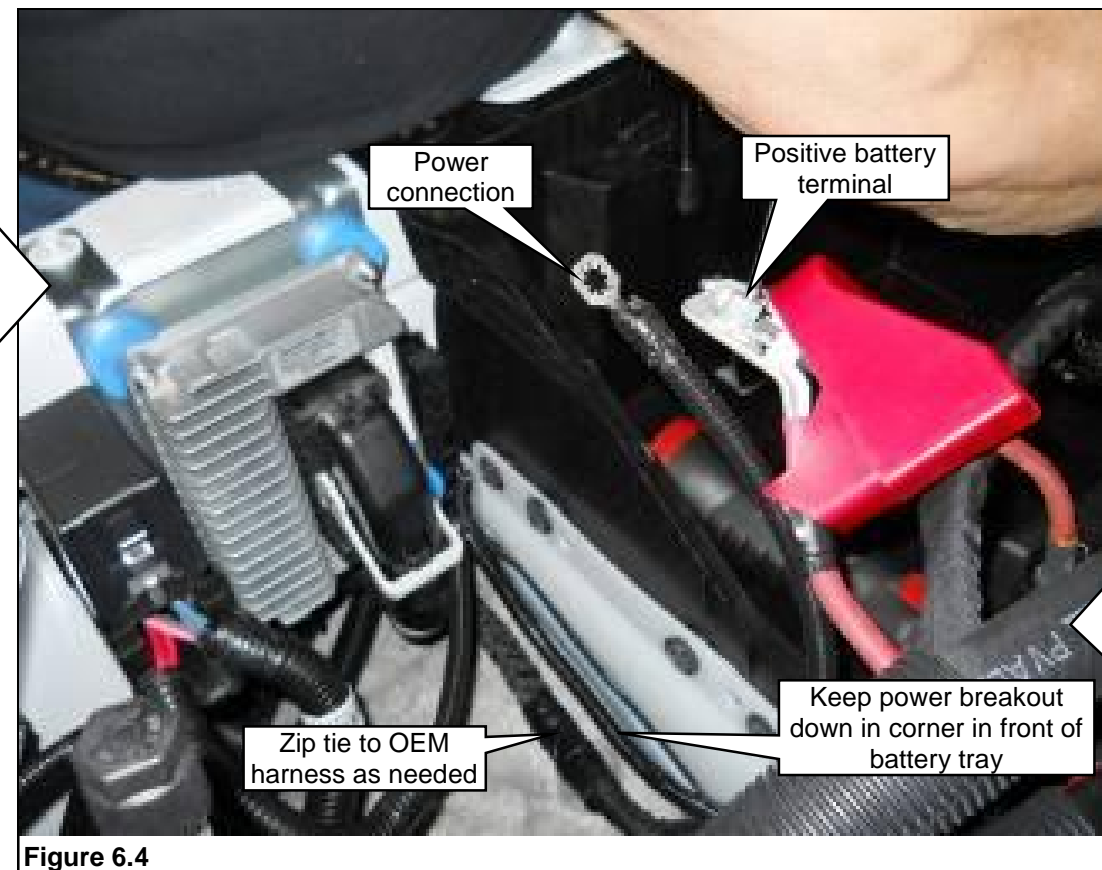

Figure 6.4
7. Leave the red battery power harness (breakout from fuse box harness) with electrical eyelet on the front side of the battery tray at the bottom. Connect the power lead to the positive terminal of the battery. Tighten the nut to secure. **Figures 6.4 and 6.5.**